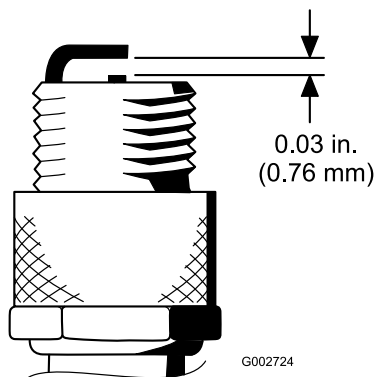

Figure 45
4. Set the air gap between the center and side of the electrodes at 0.030 inch (0.76 mm) (Figure 45).